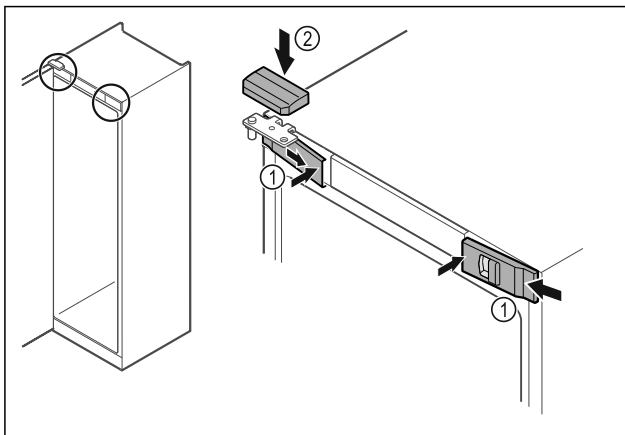

Fig. 54
- ▶ Hook in the front covers Fig. 54 (1) on the side and snap them into place on the inside.
- ▶ Snap on the top cover Fig. 54 (2) from above.